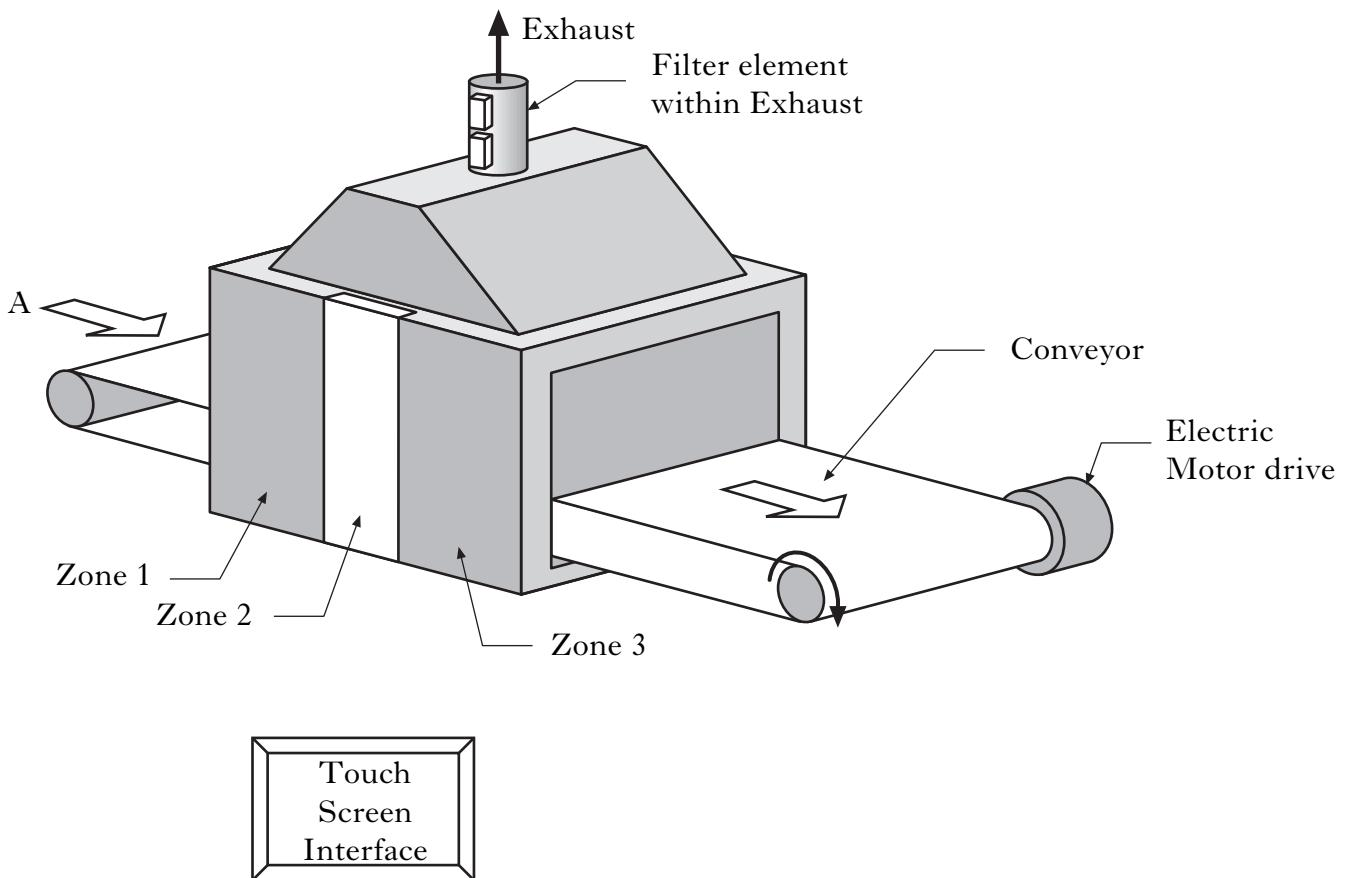

Figure Q13
- (e) Give **three** safety measures which could be included in the oven system shown in Figure Q13. 3